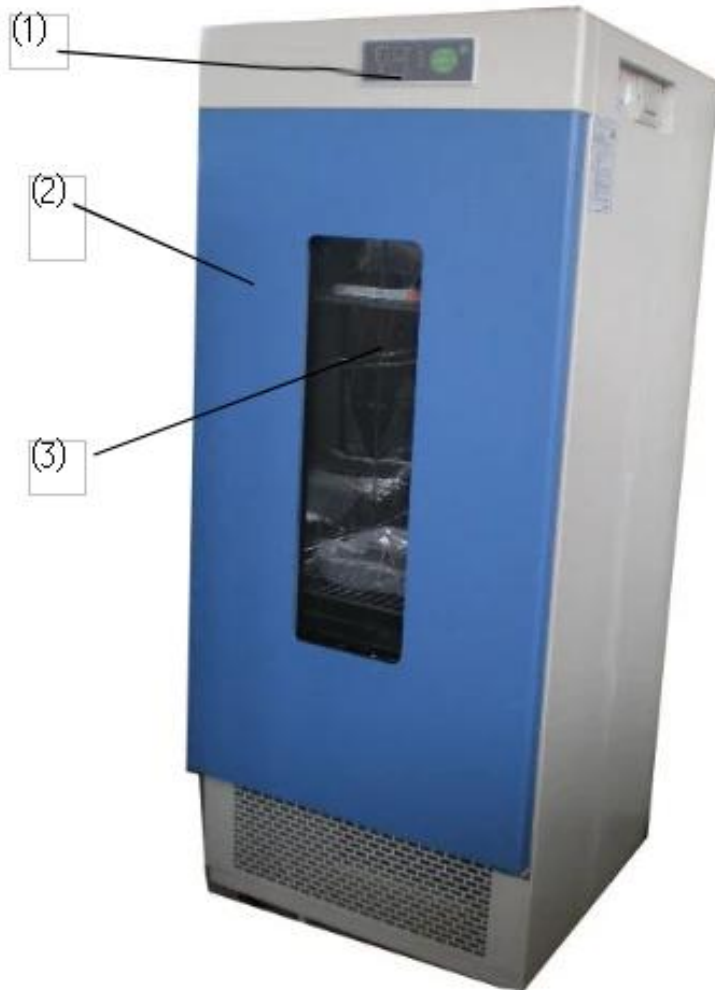

Figure 1
4.6.1 (See Figure 1) When the set temperature is higher than the ambient temperature by 5°C, please select "RT+5°C".